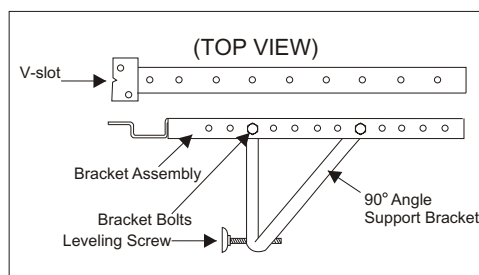
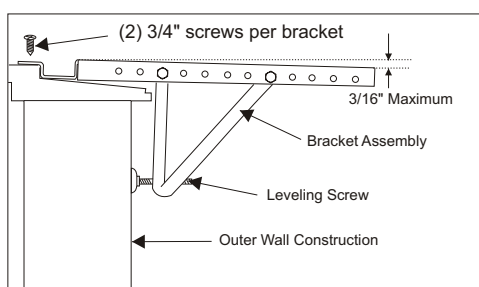
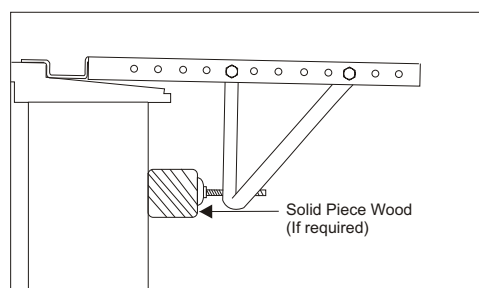

Fig. 5
Fig. 6
Fig. 7
A. Attach the **bracket assembly** to **90° angle support brackets** (*Fig. 5*) using (2) 1/4"X1 1/2" **bolts** two bolts per bracket. Secure with the (2) 1/4" **lock washers** and (2) 1/4" **nuts**. **DO NOT** immediately tighten these bolts as it may be necessary to adjust the depth of the **bracket assembly**, depending on the depth of your window sill. See (*Fig. 6*). Install the two **leveling screws** into the 90° support brackets. Test the bracket assembly in the window before cabinet installation. If the leveling screws are distanced too far away from the wall to provide stability, it may be necessary for you to shim this area with a solid piece of wood. See (*Fig. 7*).
B. For proper condensation run-off it will be necessary to adjust the angle/pitch of the window brackets. This is accomplished by adjusting the distance of the leveling screw on the outer wall. The maximum angle/pitch should not exceed more than 3/16". See (*Fig. 6*).
C. Check to make sure that the cabinet is slanted slightly downward on the outside. If necessary, re-adjust support bracket as shown in (Fig. 6).